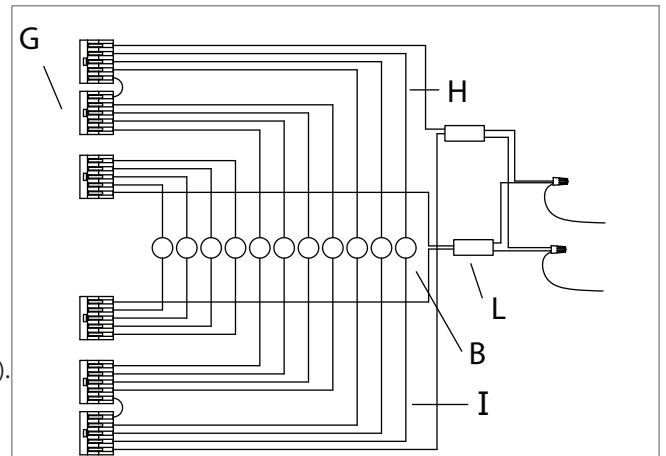
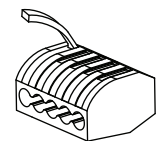

Fig. 3
Fig. 2
1. Shut off power to the outlet box. (A)
2. Feed the power cords (B) through the bushings (C) on canopy (D).
3. Determine the height at which the fixture is to be hung. Use the screwdriver (E) to loosen the set screw (F). Adjust the cord (B) to the desired length. Tighten the set screws to set.
4. Connect the fixture wires to the lever nuts (G) by pulling up on the lever for an empty slot (Fig. 2), inserting the wire, and pushing the lever back down to lock. The white inner conductor (H) and black outer conductor (I) on each cord (B) must be connected to separate lever nuts, as shown (Fig. 3).
5. Loosen the screws on the safety cable coupling (J) and undo the loop. Pass the safety cable through a hole on the mounting plate (K) and insert the end back through the coupling to form a loop. Tighten the coupling screws to secure the safety cable.
- a. Connect the transformer's (L) live wire (black) to the live outlet box wire.
- d. Carefully place connections in outlet box (A).
7. Reserve transformers (L), extra cords (B) and lever nuts (G) in canopy (D).
8. Attach mounting plate (K) to the outlet box (A), secure with outlet box screws (M). Use anchors (N) and wood screws (O) for extra support (included).
9. Attach canopy (D) to mounting plate (K), secure with finials (P).